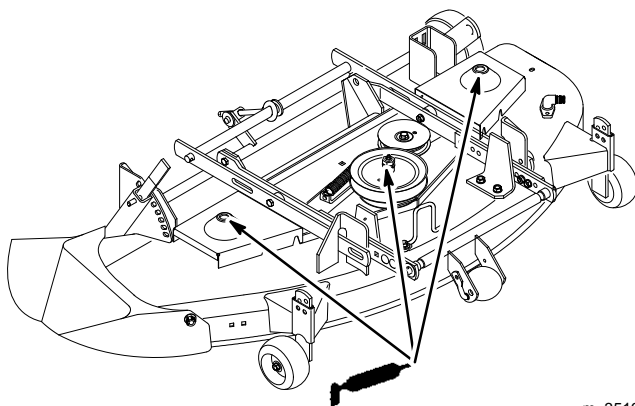

Figure 34
1. Lubricate the blade spindles (Fig. 34).